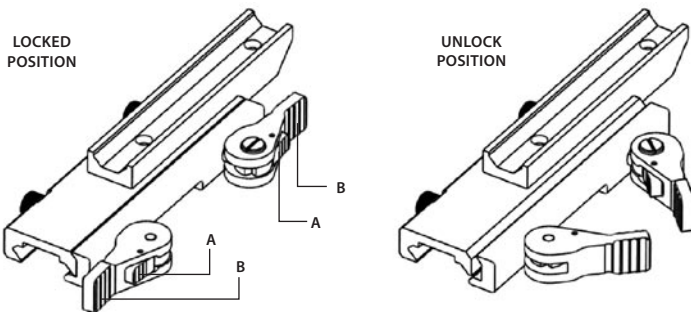

FIGURE 3-5. CO-LR MOUNT. TOP VIEW
3. Unlock the clamping device of the CO-LR mount by pushing down on the lever holders (A, see Figure 3-5) and unlocking the levers (B).
5. Affix the CO-LR to the rail by locking the levers (B, Figure 3-5).